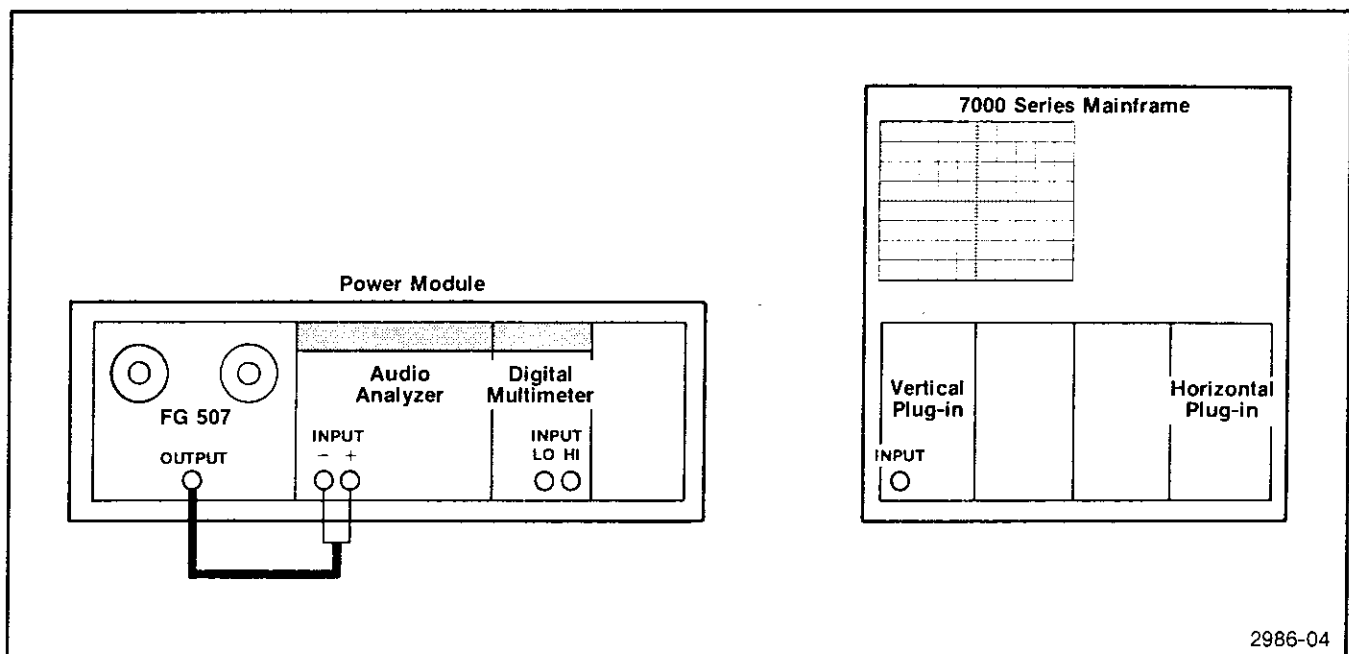

Fig. 4-2. Test setup for SINE DISTORTION adjustment.
- a. Remove the vertical plug-in INPUT connection and re-connect to the audio analyzer using a bnc to banana plug adapter. Refer to Fig. 4-2 check setup.
Refer to Fig. 4-2 test setup and preliminary control settings with the following exceptions.
Refer to Fig. 4-2 test setup.